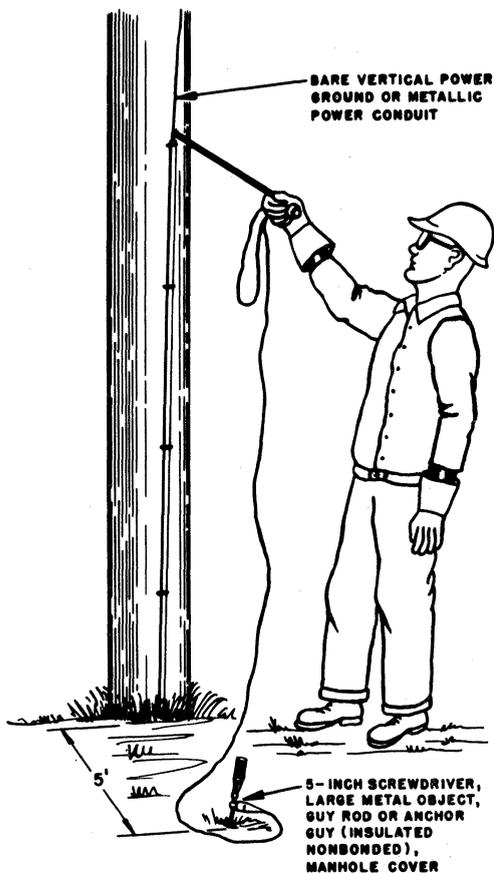

Fig. 10—Testing Vertical Power Ground
- (a) Attach the insulated clip of the B-Voltage Tester (Fig. 10) to one of the following:
- (1) A 5-inch screwdriver blade pushed into the earth about 5 feet from the pole.
- (2) A projection on a manhole cover or a metallic curb box.
- (3) A guy rod or a noninsulated anchor guy.
- (4) A substantial metal object such as a piece of lead sleeving, a metal crossarm brace, a lag wrench, or a 1/2 pound bar of D Seam